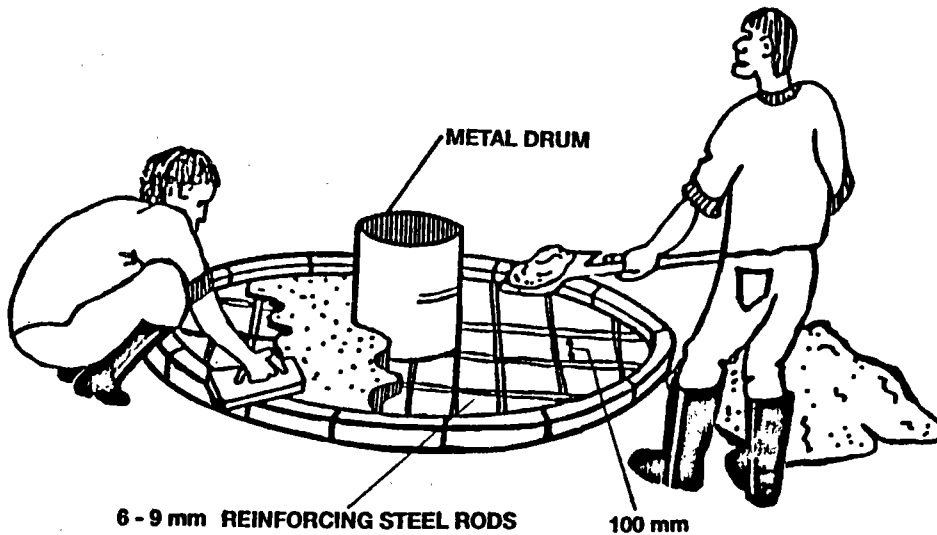

Figure 7. Making the well cover
- Place an old metal drum in the hole in the wire grid. Make sure that the bucket that will be used to draw water from the well fits into the drum (see Figure 7).